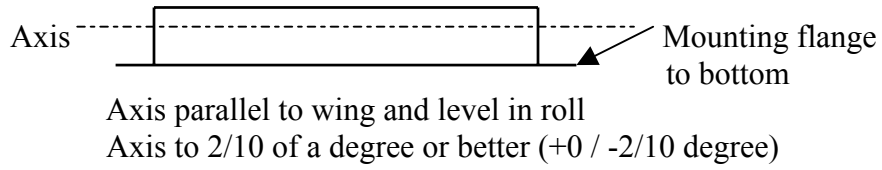

Figure 2.
- a. The EDC-D10A can be mounted in any location (taking into account clauses 1 & 2 above) so long as the long axis is parallel to the wings and level in the roll axis to 2/10 of a degree or better. (See Figure 2)